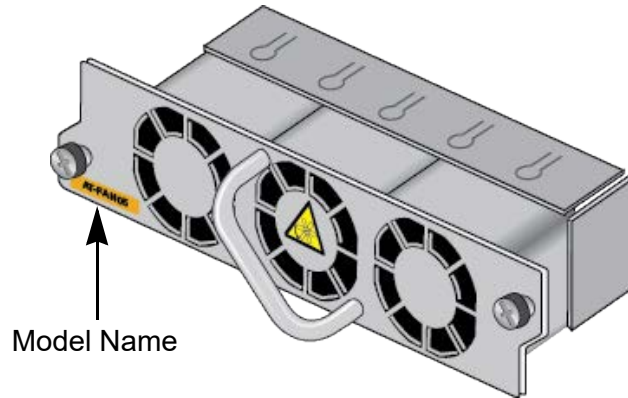

Figure 20. FAN05 Fan Module
The cooling unit for the chassis is the FAN05 Fan module. See Figure 20.
1. The model name is on the front panel of the fan module. See Figure 20.